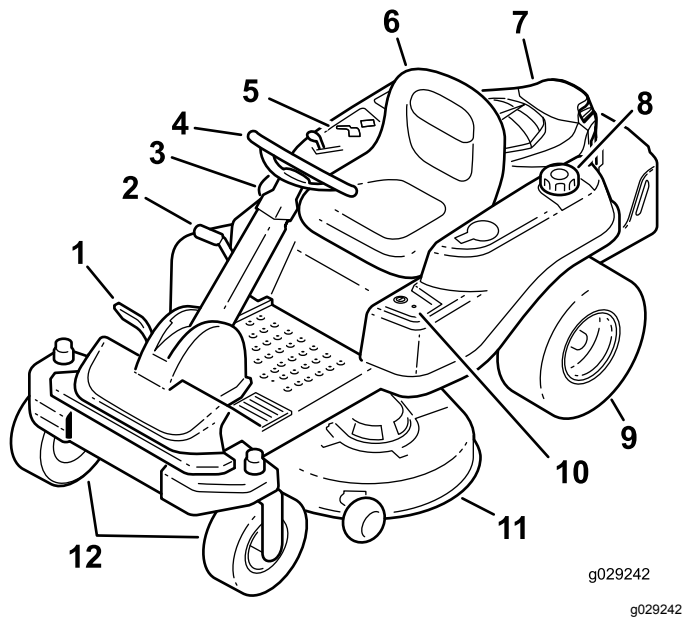
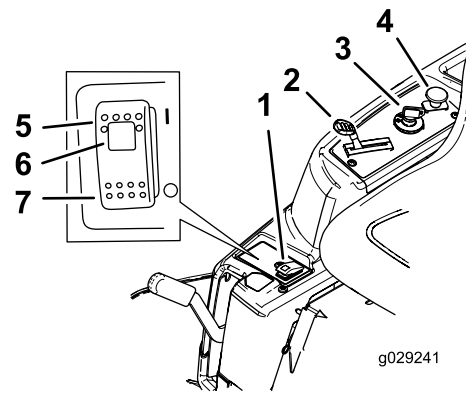

Figure 4
Figure 5
Become familiar with all controls in Figure 4 and Figure 5 before you start the engine and operate the machine.
The throttle controls the engine speed, and it has a continuous-variable setting from the SLOW to FAST position (Figure 5).
The blade-control switch (PTO) engages and disengages power to the mower blades (Figure 5).
- Pressing the Smart Park™ switch to the ON position (Figure 5).